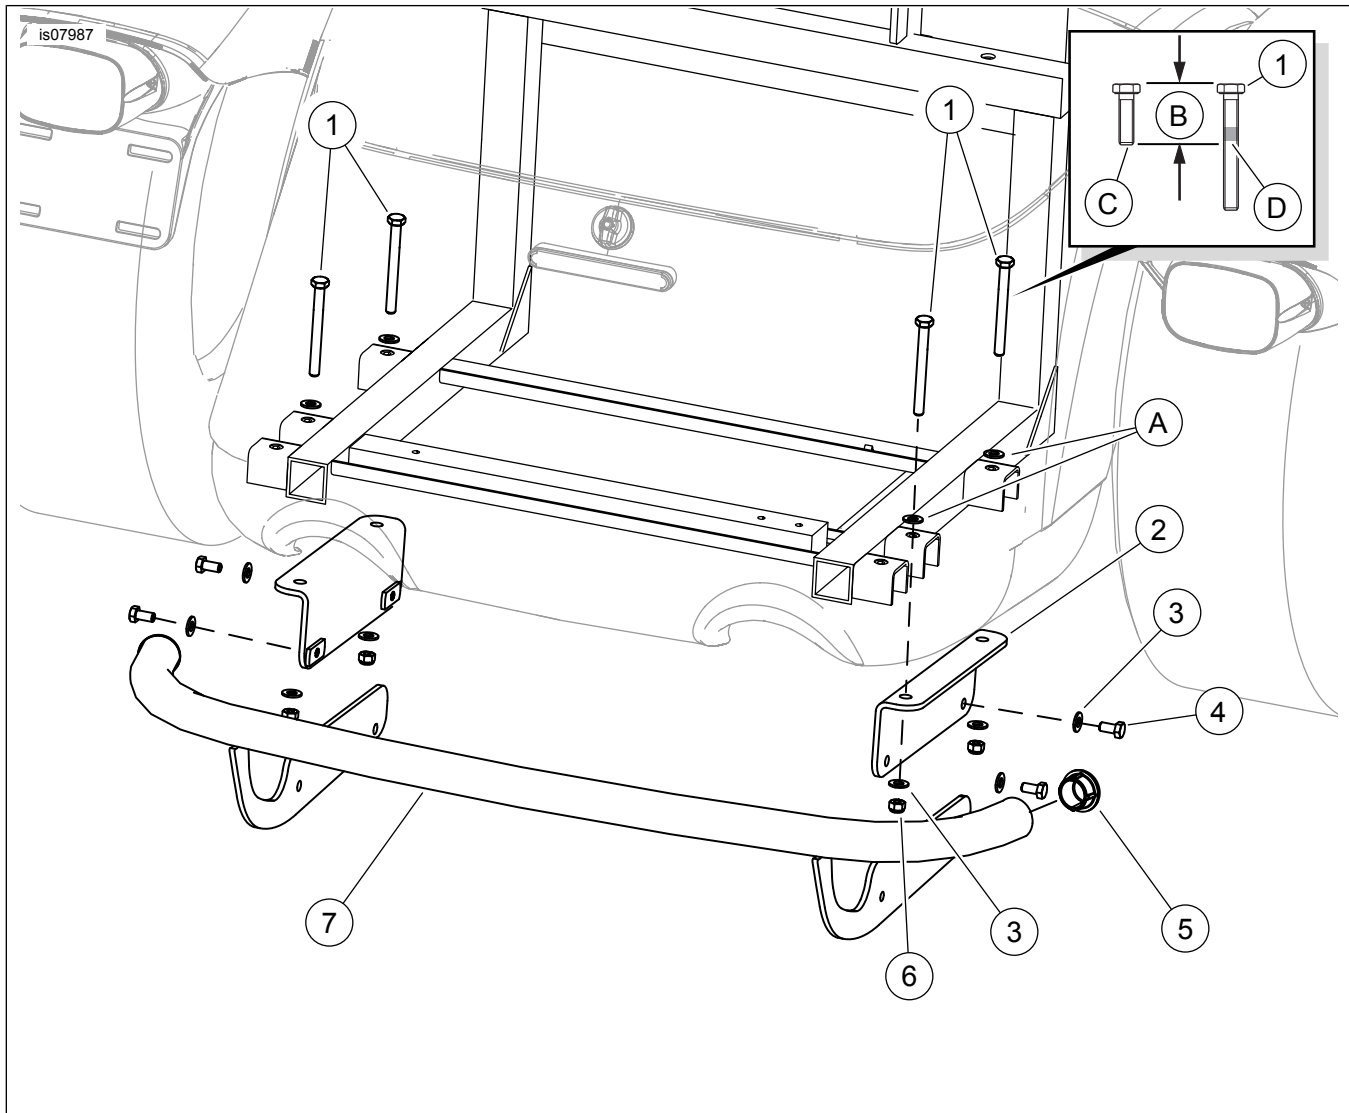

Figure 1. Service Parts: Trike Chrome Rear Guard Kit
See Figure 1 and Table 1.
2. See Figure 1. Locate four screws with washers (A) in the floor of the trunk compartment that hold the body to the rear frame. Leaving the washer in place, remove one of the screws. Save screw for next step, then discard.
3. See the inset in Figure 1. Apply LOCTITE 243 (blue) to long screws (1).
- a. Mark the length (B) of the original screw (C) onto new long screw (1).
- b. Apply LOCTITE 243 (blue) (D) to 10 mm (3/8 in) of the screw threads on the head side of the mark.
Orient mounting brackets as shown in Figure 1.